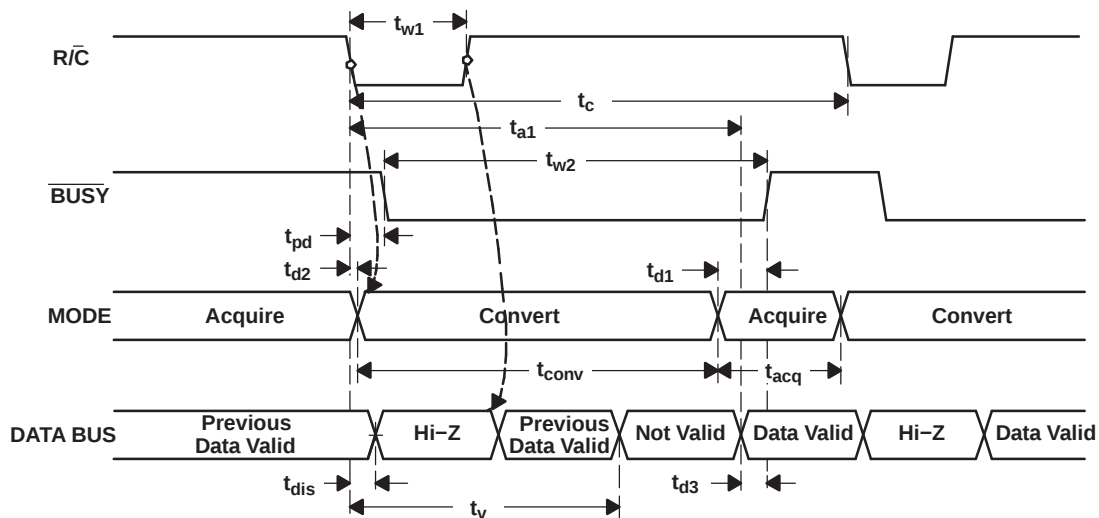
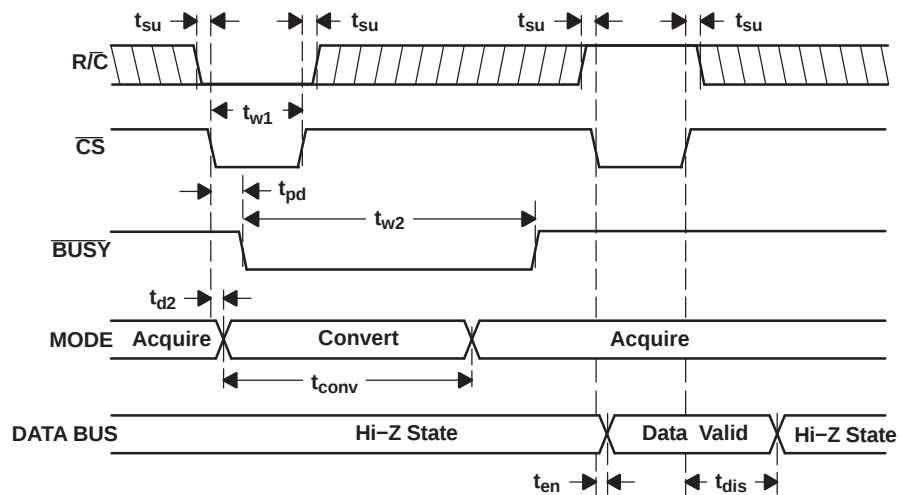
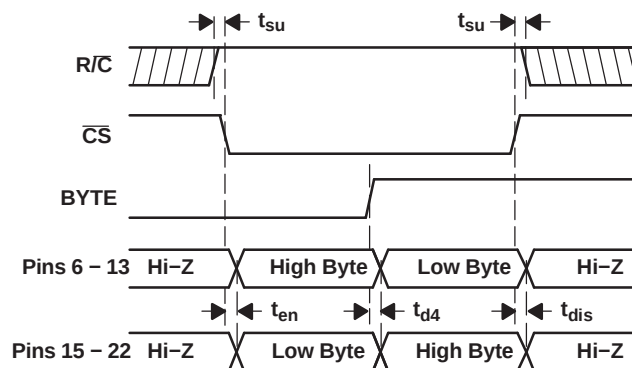

Figure 21. Conversion Timing with Outputs Enabled after Conversion ($\overline{\text{CS}}$ Tied Low)
Figure 22. Using $\overline{\text{CS}}$ to Control Conversion and Read Timing
Figure 23. Using $\overline{\text{CS}}$ and BYTE to Control Data Bus
The ADS8515 begins tracking the input signal at the end of the conversion. Allowing 4 μs between convert commands assures accurate acquisition of a new signal. Refer to Table 1 for a summary of $\overline{\text{CS}}$, $\text{R}/\overline{\text{C}}$, and BUSY states and Figure 21, Figure 22, and Figure 23 for the timing diagrams.
(1) See Figure 21 and Figure 22 for constraints on data valid from conversion $n - 1$.
After conversion n is completed and the output registers have been updated, $\overline{\text{BUSY}}$ (pin 26) goes high. Valid data from conversion n are available on D15 to D0 (pins 6 to 13 and 15 to 22). BUSY going high can be used to latch the data. Refer to Table 3 and Figure 21, Figure 22, and Figure 23 for timing specifications.
After conversion n has been initiated, valid data from conversion -1 can be read and are valid up to t_2 after the start of conversion n . Do not attempt to read data from t_2 after the start of conversion n until BUSY (pin 26) goes high; this may result in reading invalid data. Refer to Table 3 and Figure 21, Figure 22, and Figure 23 for timing specifications.
The number of control lines can be reduced by tying $\overline{\text{CS}}$ low while using the falling edge of $\text{R}/\overline{\text{C}}$ to initiate conversions and the rising edge of $\text{R}/\overline{\text{C}}$ to activate the output mode of the converter. See Figure 21.